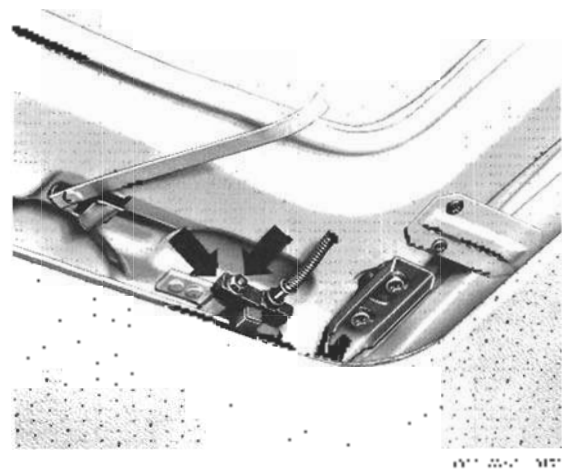

Fig. 8-5. Rear lifter with leaf spring moved aside. The arrows indicate the nut and bolt that lock the position of the lifter pin.
7. To adjust the height of the rear edge of the sliding roof panel, open the roof slightly. Then unhook the leaf springs from both rear lifters and swing the springs to the position shown in Fig. 8-5.
8. Loosen the nut and bolt indicated in Fig. 8-5 on both rear lifters.